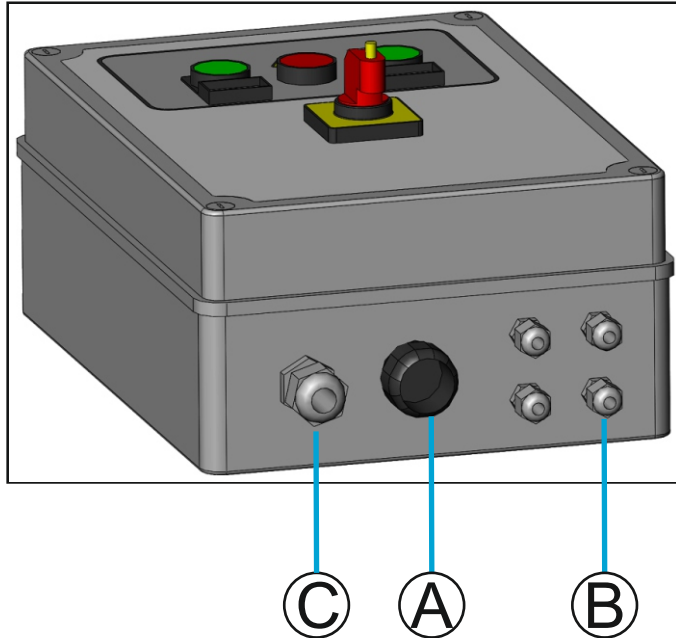

Figure 14: Connection cables and exterior control box.
Connect the plug of the control box (A) to the guide connector (figures 14 and 15).
Connect the electric power 230V/AC, passing the cable through point (C) (figure 14) and connect it to the breaker (see figure 14 point C).